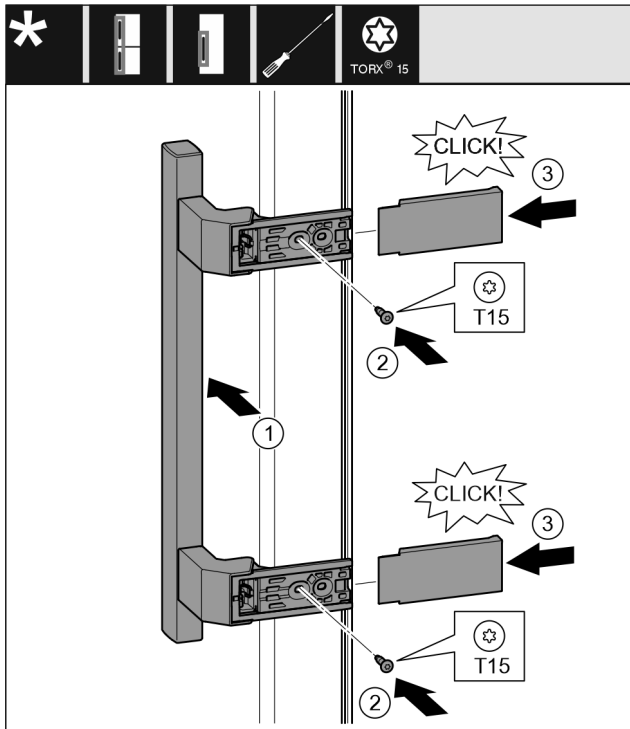

Fig. 12
- ▶ Attach the handle on the opposite side. Fig. 12 (1)
- ▶ Tighten screws with screwdriver T15. Fig. 12 (2)
- ▶ Place the covers on the side and push them on. Fig. 12 (3)